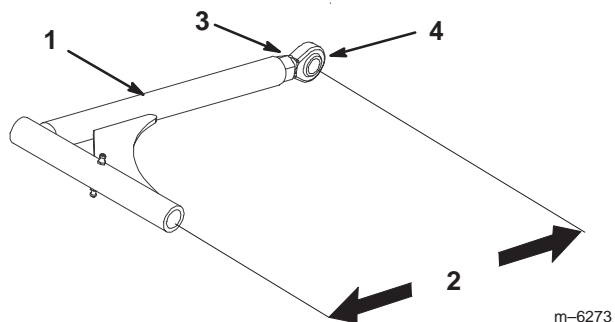

Figure 70
9. If the fixed idler contacts the end of the adjustment slot and more belt tension is required, a small change to lengthen the push arms can be made (Fig. 70).